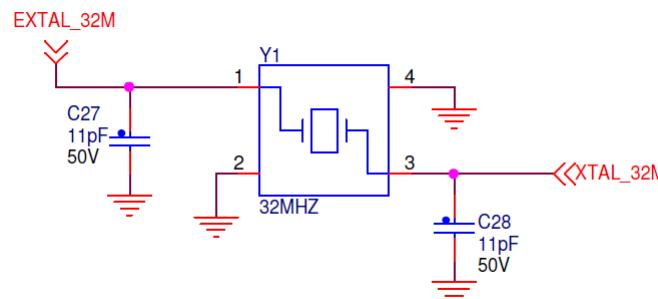

Figure 5. KW40-HRM-RD 32 MHz reference oscillator circuit
- 32 MHz Reference Oscillator - Figure 5 shows the external 32 MHz external crystal Y1. This mounted crystal must meet the specifications outlined in the AN3251 application note. IEEE Std. 802.15.4 requires that the frequency be accurate to less than ±40 ppm.